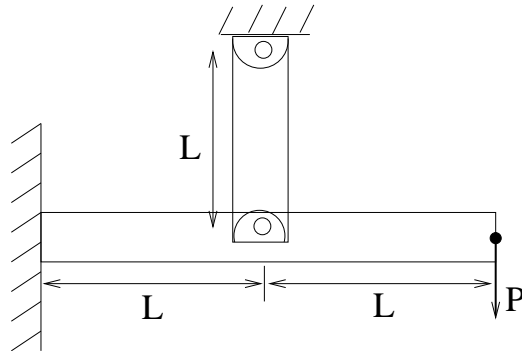

Figure 1:
- (b) Formulate the variational formulation (V) in the form $a(T, v) = L(v) \forall v$. Is $a(., .)$ symmetric and positive-definite (justify)?
- (c) Formulate a finite element method based on (V) using 1-D quadratic elements. Find the required matrices as functions of \mathbf{N} and $d\mathbf{N}/d\xi$. Do *not* carry out the integrations.
2. The horizontal and vertical members of the assembly shown in Fig. 1 are identical in all respects except that their lengths are $2L$ and L , respectively. The vertical member has pin-joints at both its ends. A vertical load P is applied at the end as shown. We are interested in finding the vertical displacement at the point of application of the load. Construct the global stiffness matrix, \mathbf{K} , and the global load vector \mathbf{f} using two elements each of length L for the horizontal member, and one element of length L for the vertical one. Incorporate the boundary conditions using the elimination approach, and write the new \mathbf{K} and \mathbf{f} matrices. Indicate the displacement degree of freedom that we are interested in finding. Do *not* solve the system of equations to find the required quantity. Assume Young's modulus to be E , moment of inertia to be I and the cross-sectional area to be A . You may use the given element matrices directly. (40)